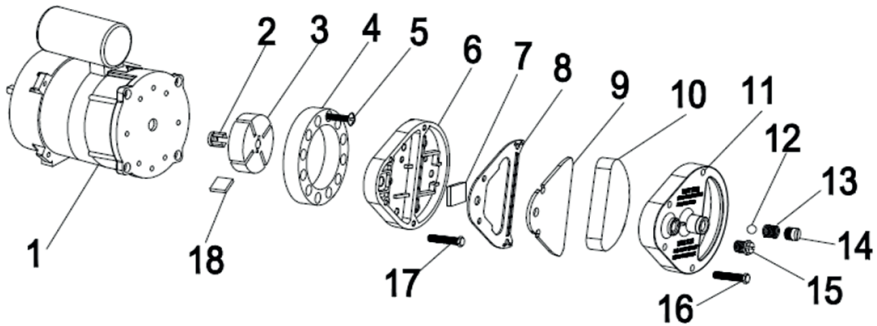

Figure 3
Clean the air filters. Remove the filter end cap (11), wash the air intake filter (10) with a mild detergent and dry it thoroughly before refitting it. Replace the air supply filter (9) once a year (Fig. 3)